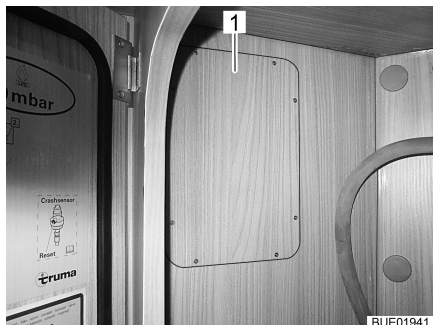
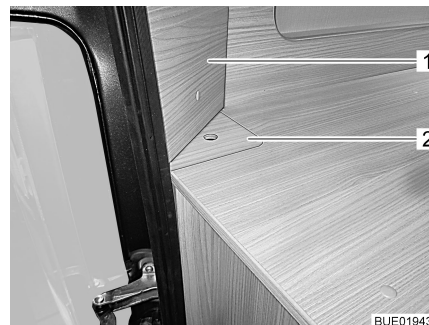

Fig. 82 Access to left hand rear lights (600)
Fig. 83 Access to left hand rear lights (640)
*Replacing left hand bulb (600):*
- Remove the cover (Fig. 82,1). The cover is fixed with cross-head screws. The cover is located in the gas bottle compartment.
*Replacing left hand bulb (640):*
- Remove the cover (Fig. 83,1). The cover is fixed with cross-head screws.
- Grip cover (Fig. 83,2) at the grip hole and take it out.